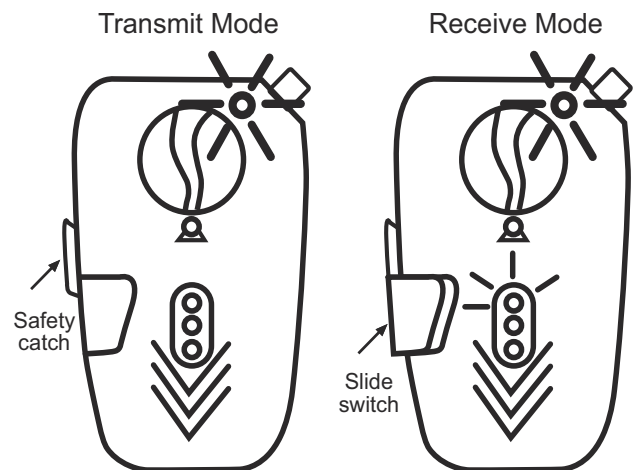

Figure 1-10. Transceiver in Transmit and Receive Modes.
- *Transmit/receive switch with safety catch.* The switch is pushed in to transmit or pulled out to receive. The safety catch must be in place during the transit mode to prevent accidental employment of the receiving mode. See figure 1-10.